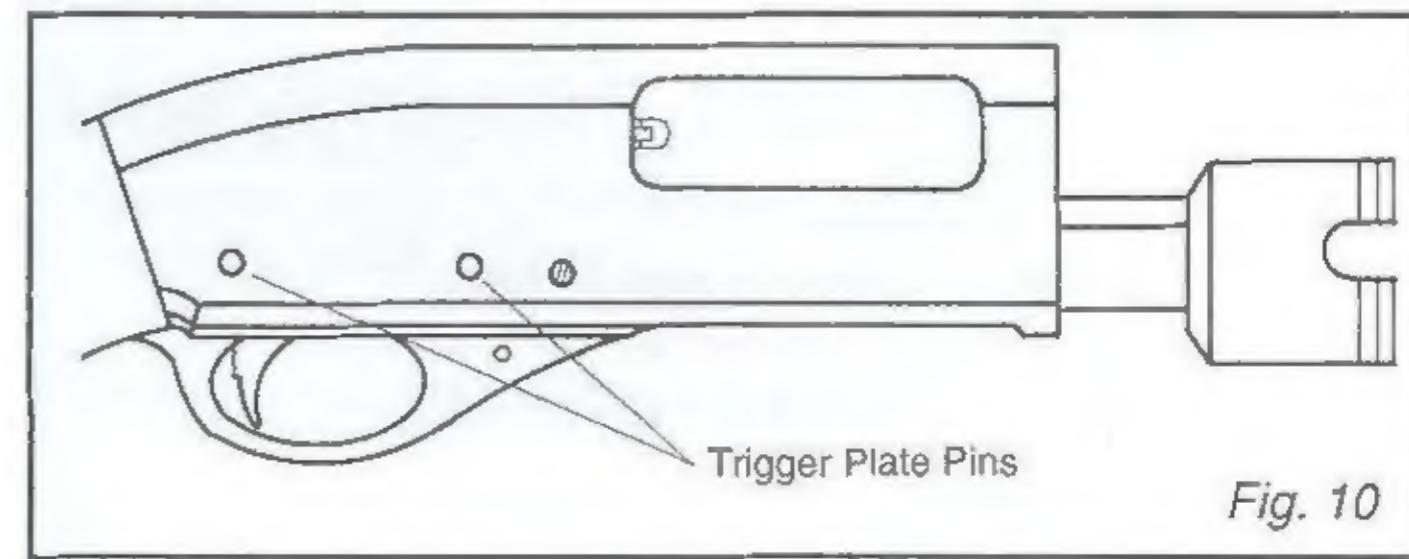

Fig. 10
- Alternatively, remove the trigger plate assembly as shown in Fig. 10.
- Remove the front and rear pins of the trigger plate. See Fig. 10.
- Position and align the holes, and tap in the front and rear trigger plate pins. See Fig. 10.